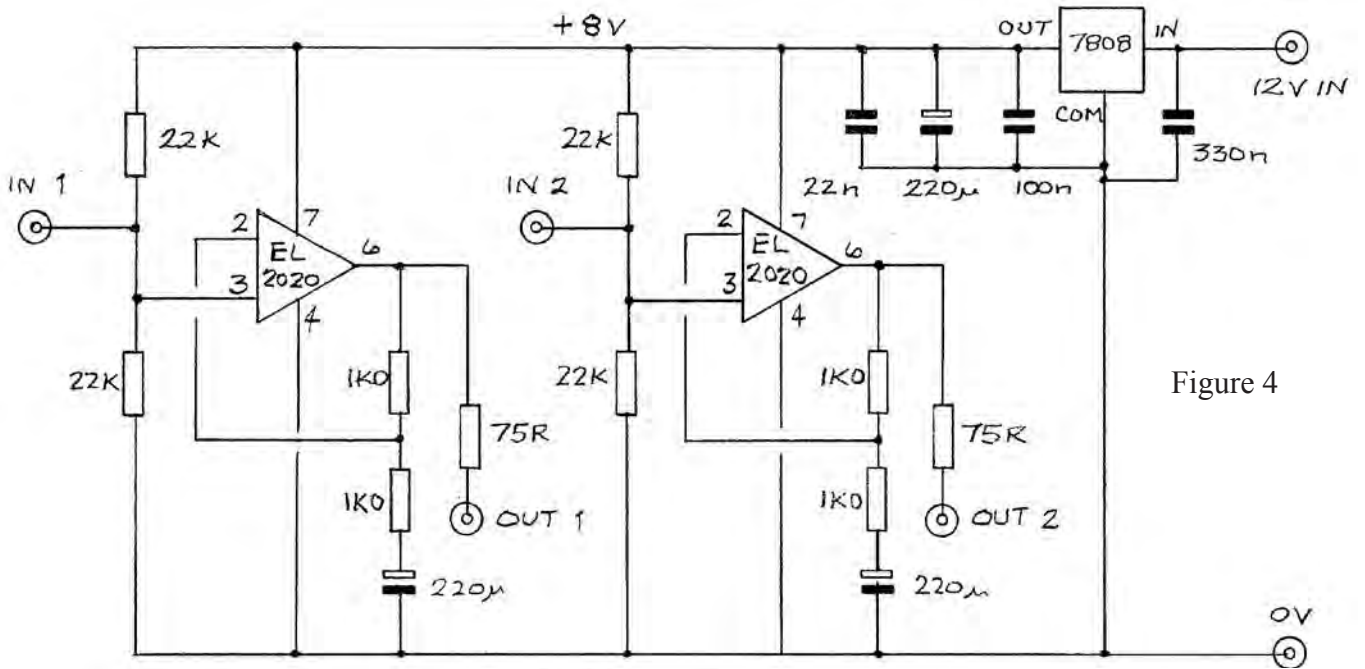
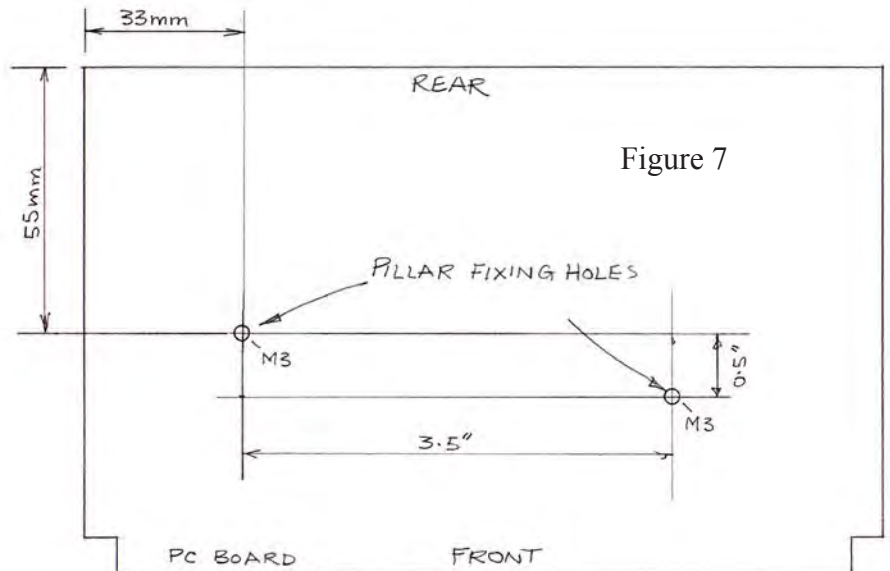
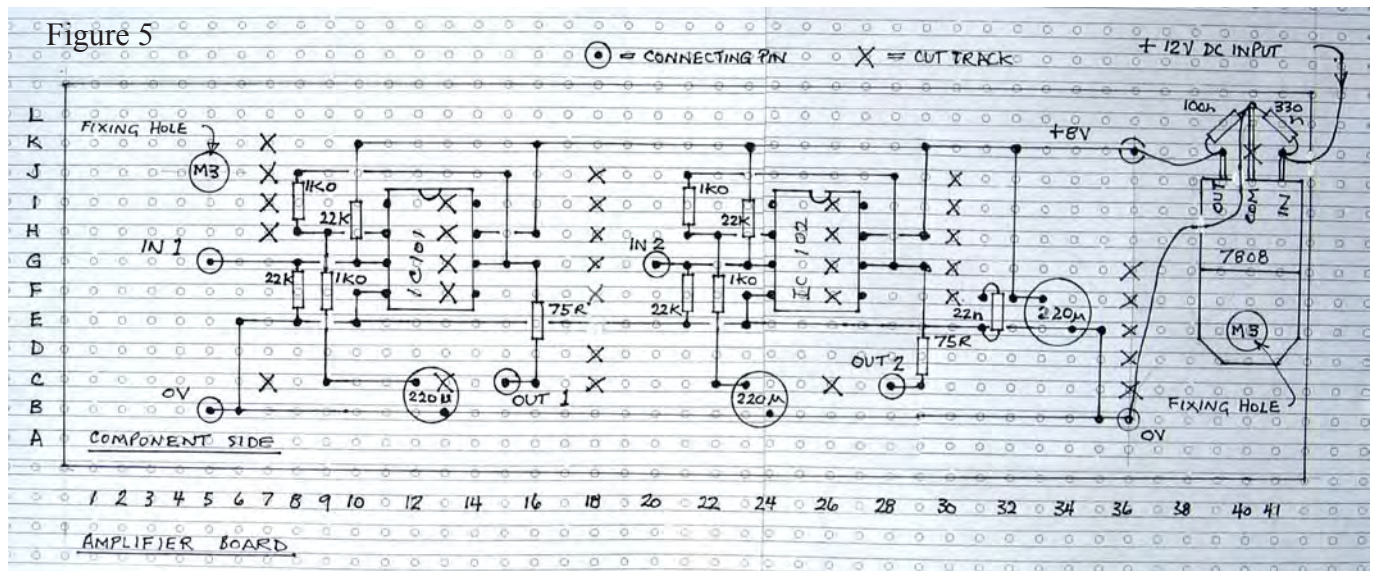

Figure 4
Figure 7
Figure 5
the input resistors, a gain of X2 and a sending impedance of 75 ohms. The op-amp circuit is shown in Fig.4 and the Veroboard layout in Fig. 5.
The video amplifiers and associated components are mounted on a piece of Veroboard, 12 strips wide by 41 holes long, as shown in Fig.5. An 8V regulator, 7808 or similar is mounted on the top of the Veroboard by an M3 screw. This screws into the right hand pillar which also supports that end of the Veroboard. There is no need for a heat sink as the power dissipation is very small. The position of the two mounting pillars is shown in Fig.7. Their position is critical so as to avoid damaging any of the PCB tracks on the underside. The position of the left hand pillar is given in mm, but the position of
- Fig.4. Dual Op-amp Circuit
- Fig.5. Veroboard Layout
- Fig.7. Position of Mounting Pillars